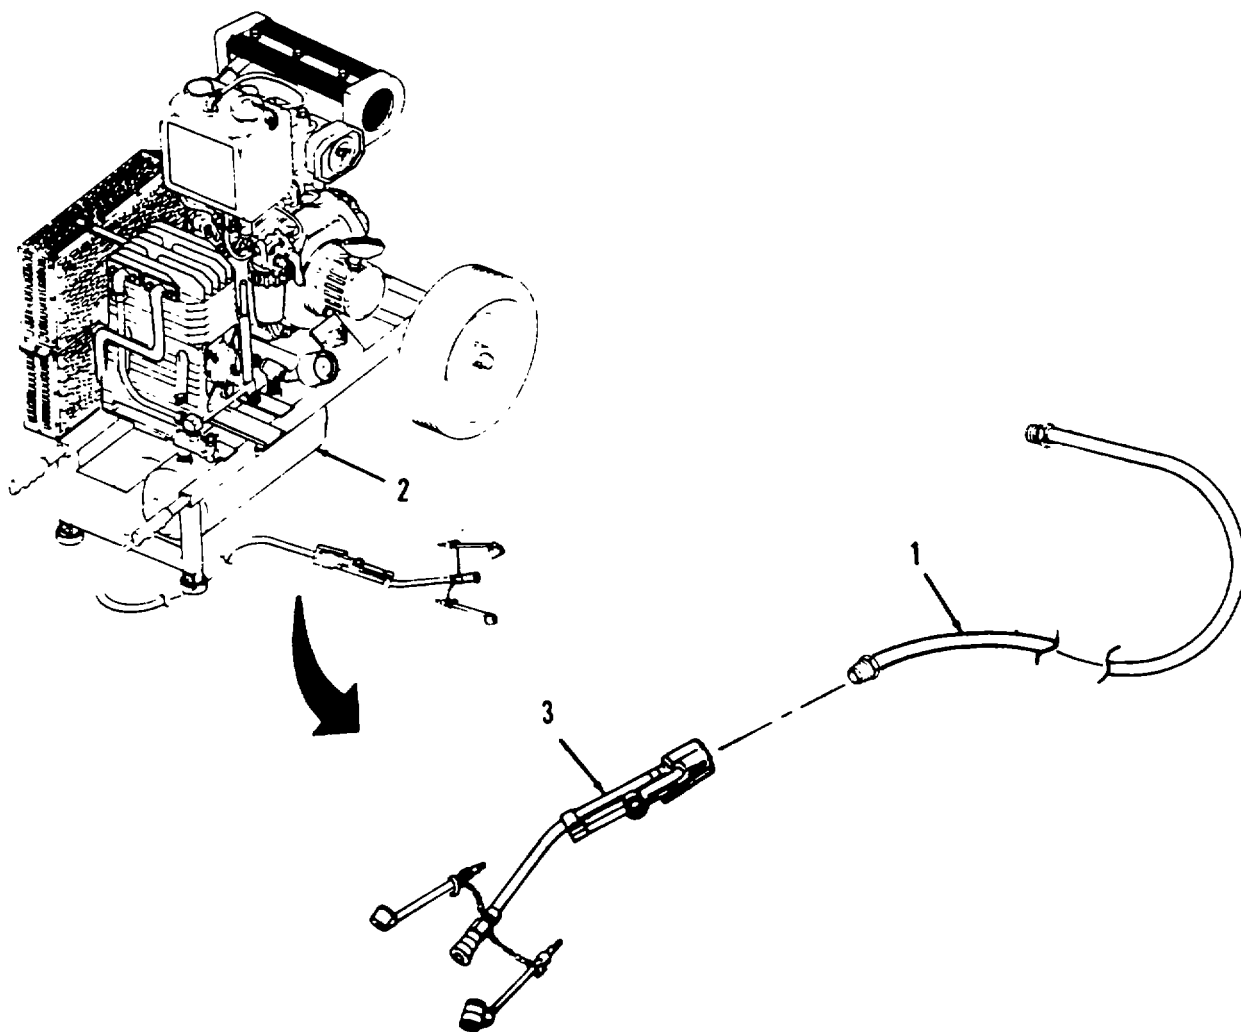

Figure 4-4. Air Hose and Inflation Gauge Repair and Replacement.
- a. Removal.** (Refer to Figure 4-4).
- (1) Unscrew air hose (1) from receiver air tank (2) and remove air hose from unit.
- (2) Unscrew inflation gauge (3) from air hose (1).